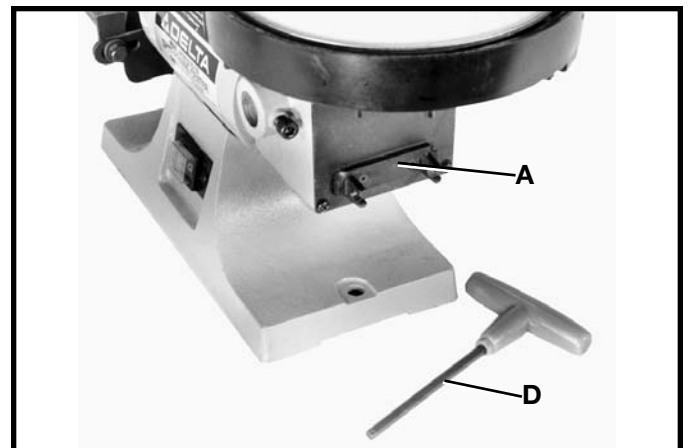
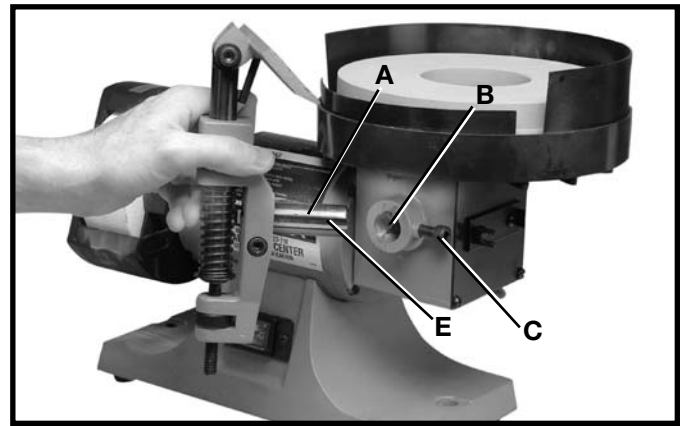

Fig. 10
Fig. 11
1. Wrench (D) Fig. 10, can be stored in bracket (A) when not in use.
1. Take the tool and chisel holder base and insert its mounting post (A) Fig. 11, into hole (B) in the front of the machine, and tighten screw (C) against groove (E) of mounting post. Use the provided wrench (D) Fig. 10.